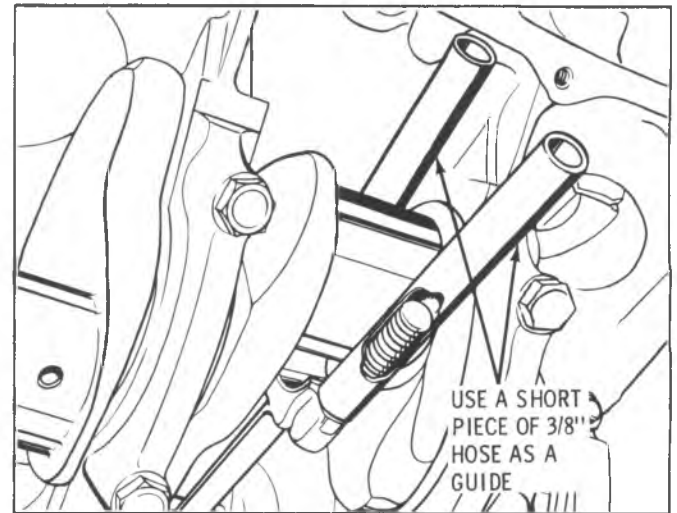

Fig. 6A6-62--Connecting Rod Bolt Guide
2. Position pump onto the rear main bearing cap and install attaching bolts. Torque bolts to 35 lb. ft. (47 N·m) (Fig. 6A6-61).